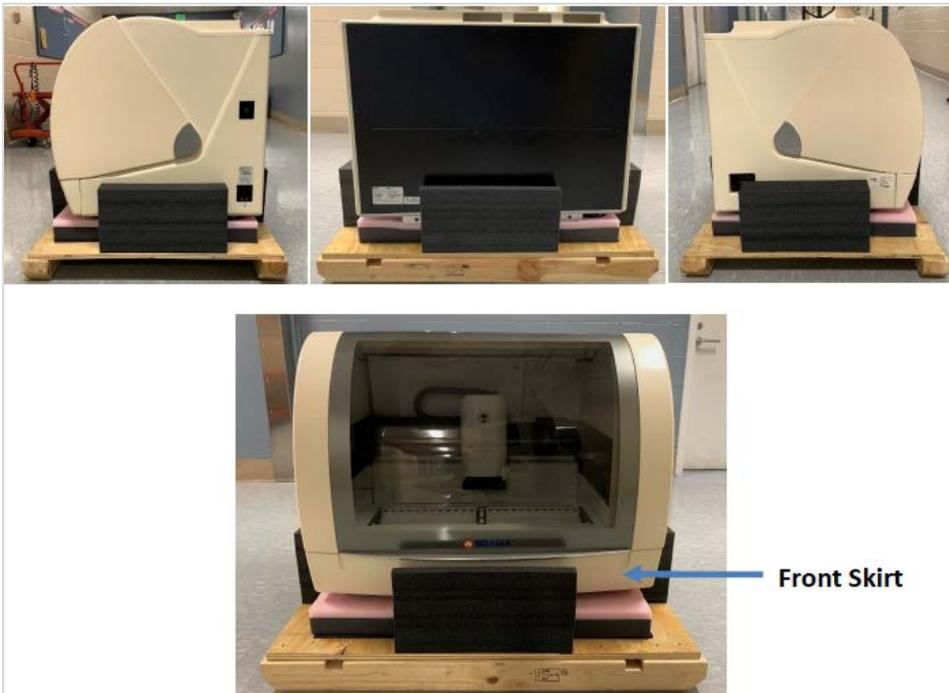

Figure 10: Cable duct (left) and two tension screws in the “elbow” (middle) and “wrist” (right).
1. Adjust the tension of the arm joints using the set screws beneath the “elbow” (1/8”) and “wrist” (5/32”) of the arm. (Clockwise to tighten) (Fig. 10)
12. Connect AIO cables and organize with cable ducts in the monitor arm (Fig. 10).